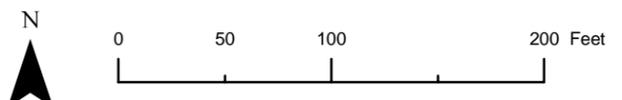

Figure 2
Purpose	<p>The purpose of this Work Plan Revision is to supplement the RAC III CTO No. 0086 Work Plan Addendum No. 18 with detailed information for soil sampling at Bldg. 46 sites at the former NAS Cecil Field, Jacksonville, Florida. The site location is shown in Figure 1. Soil samples from three locations (SB-1, SB-2 and SB-14) shown in Figure 2 will be obtained using a hand auger by Terraine, Inc., (Terraine), who is the Navy’s contractor conducting quarterly soil and groundwater sampling at this site.</p> <p>CH2MHILL will obtain split samples from the soil sample volume collected by Terraine, in bottles obtained by CH2MHILL from its offsite laboratory subcontractor. Split samples will be collected from approximate depth of 6 feet below ground surface (or existing capillary fringe area just above the current water table depth at the site). CH2MHILL will prepare the samples for shipment and ship the samples to be analyzed at CH2MHILL’s subcontracted offsite laboratory for volatile organic compounds (VOCs) and polyaromatic hydrocarbons (PAHs), including 1-methylnaphthalene and 2-methylnaphthalene using the Synthetic Precipitation Leaching Procedure (SPLP), to determine leachability of soil contamination into groundwater at this site.</p> <p>This revision provides the supplemental details necessary to conduct soil sampling such as sampling parameters and analytical requirements, the updated role assignments for the primary and alternate Project Quality Control (QC) Managers, and the updated Activity Hazard Analysis forms.</p> <p>Following are the specific modifications/revisions:</p>